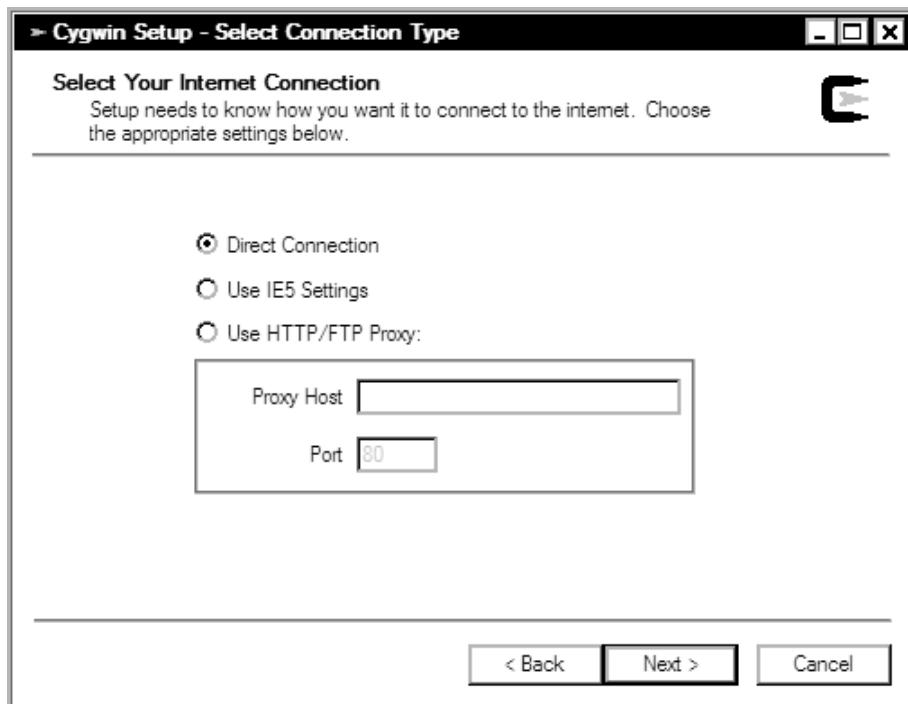

Figure 2-4. Cygwin installation, selecting Internet connection type.
7. Select a connection type (see Figure 2-4). Generally, you can choose Direct Connection. However, if you have an Internet connection that requires making a connection, the IE5 settings make that connection for you before starting the download process. If your environment uses a proxy to connect to the Internet, select the third item, and enter the hostname and port for the proxy.